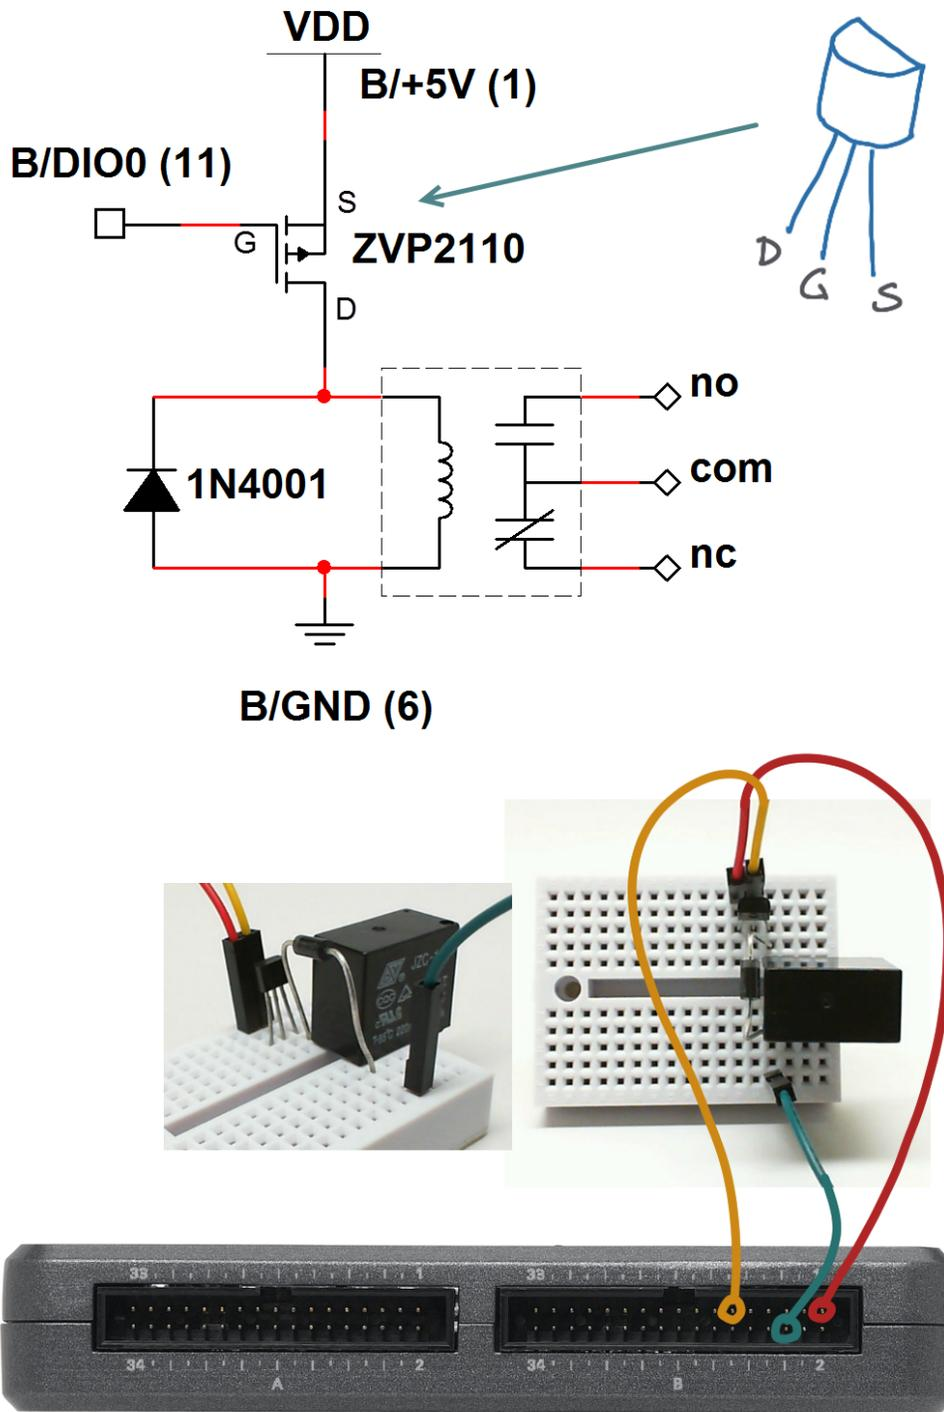

Figure 6.2: Demonstration circuit for relay: schematic diagram, recommended breadboard layout, and connection to NI myRIO MXP Connector B.
**Build the interface circuit:** Refer to the schematic diagram and recommended breadboard layout shown in Figure 6.2 on page 29. Note that the three relay switch contacts do not sit on tenth-inch centers, therefore this end of the relay must hang off the side of the breadboard. The interface circuit requires three connections to NI myRIO MXP Connector B: